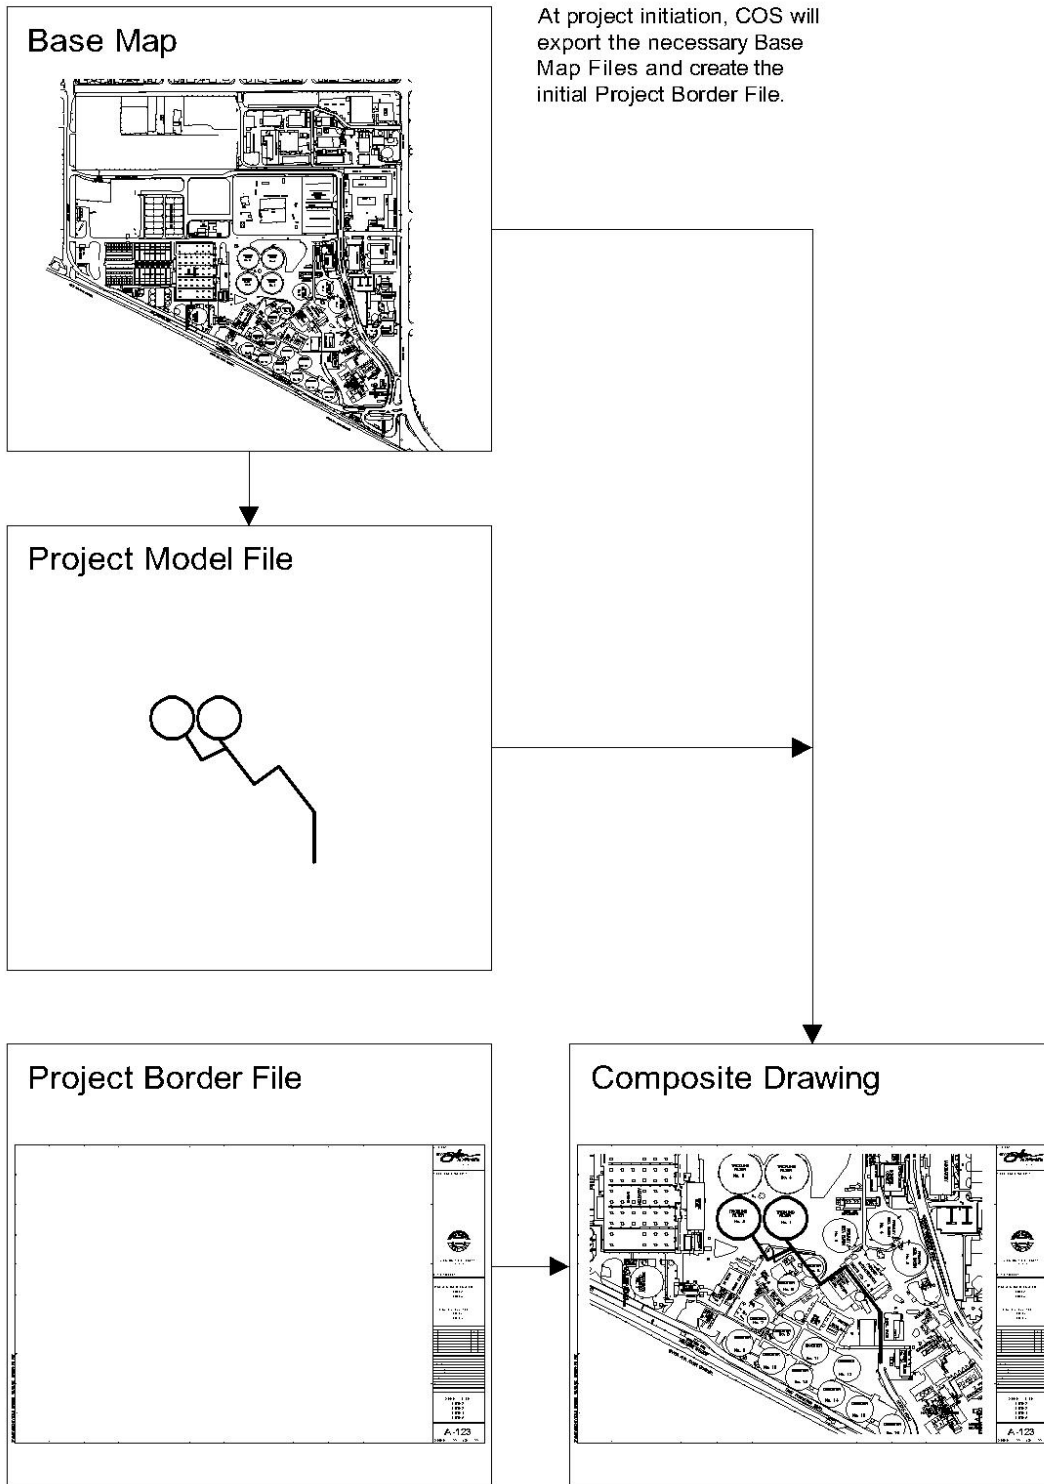

Figure 1 - Drawing Organization
- c. The base map drawing and the project border files (title block) will be maintained as separate drawings and used as xrefs (overlay mode) to the project drawings (see Figure 1). These files will be named using the City project number, followed by a dash, the appropriate designator “BASE” or “TITLE,” and the “.dwg” file extension. Examples of these are 702178-BASE.dwg and 702178-TITLE.dwg.